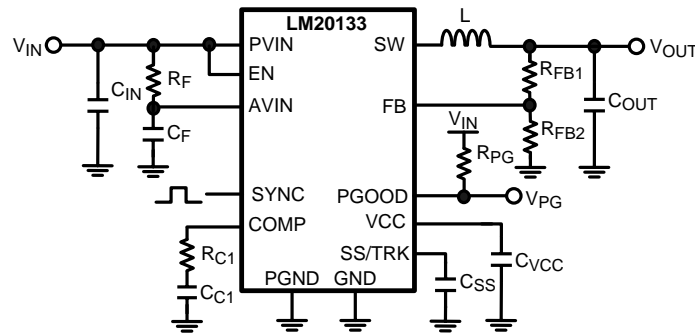

Figure 30. Typical Application Circuit
The LM20133 switching regulator features all of the functions necessary to implement an efficient low voltage buck regulator using a minimum number of external components. This easy to use regulator features two integrated switches and is capable of supplying up to 3A of continuous output current. The regulator utilizes peak current mode control with nonlinear slope compensation to optimize stability and transient response over the entire output voltage range. Peak current mode control also provides inherent line feed-forward, cycle-by-cycle current limiting and easy loop compensation. The internal oscillator can synchronize up to 1.5 MHz minimizing the inductor size while still achieving efficiencies up to 96%. The precision internal voltage reference allows the output to be set as low as 0.8V. Fault protection features include: current limiting, thermal shutdown, over voltage protection, and shutdown capability. The device is available in the HTSSOP 16-pin package featuring an exposed pad to aid thermal dissipation. The LM20133 can be used in numerous applications to efficiently step-down from a 5V or 3.3V bus. The typical application circuit for the LM20133 is shown in Figure 30.
This section walks the designer through the steps necessary to select the external components to build a fully functional power supply. As with any DC-DC converter numerous trade-offs are possible to optimize the design for efficiency, size, or performance. These will be taken into account and highlighted throughout this discussion. To facilitate component selection discussions the circuit shown in Figure 30 below may be used as a reference. Unless otherwise indicated all formulas assume units of amps (A) for current, farads (F) for capacitance, henries (H) for inductance and volts (V) for voltages.
To prevent high frequency noise spikes from disturbing the sensitive analog circuitry connected to the AVIN and AGND pins, a high frequency RC filter is required between PVIN and AVIN. These components are shown in Figure 30 as C_F and R_F . The required value for R_F is 1Ω. C_F must be used. Recommended value of C_F is 1.0 μF. The filter capacitor, C_F should be placed as close to the IC as possible with a direct connection from AVIN to AGND. A good quality X5R or X7R ceramic capacitor should be used for C_F .